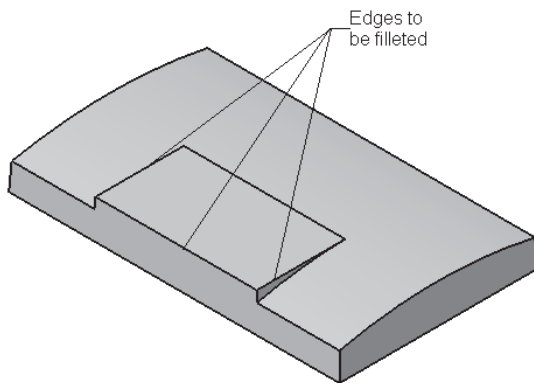

Figure 6-94 Edges to be selected
- d. Fillet the edges of the model, refer to Figures 6-94 through 6-99.
2. Select the edges shown in Figure 6-94 and set the value of the **Radius** spinner to **3**.